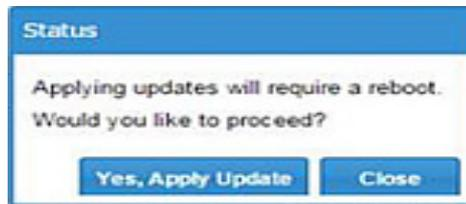

Figure 87 Applying Update
- In the status pop-up window, click **Yes, Apply Update**, as shown in Figure 87 on page 76.